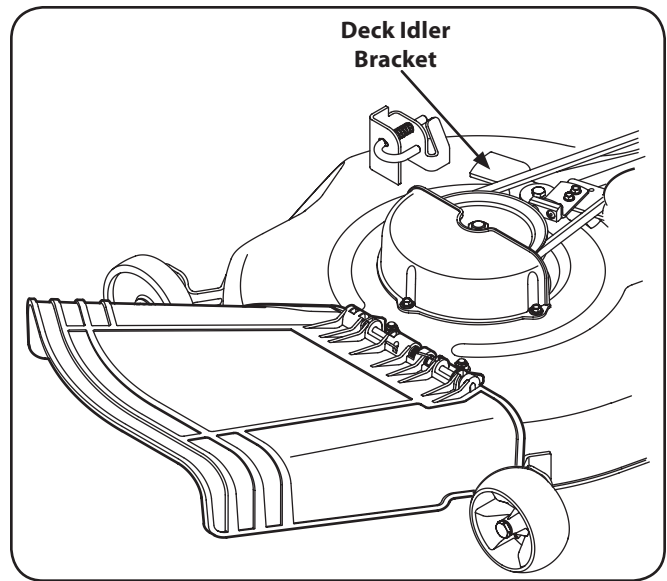

Figure 7-6
belt for it to be easily removed from the electric PTO clutch, carefully insert a $\frac{3}{8}$ " drive ratchet wrench (set to *tighten*) into the square hole found in the left-hand deck idler bracket and pivot it toward the tractor's right side to relieve tension on the belt. See Figure 7-6.
3. Remove the belt guards by removing the self-tapping screws that fasten them to the deck. See Figure 7-6.